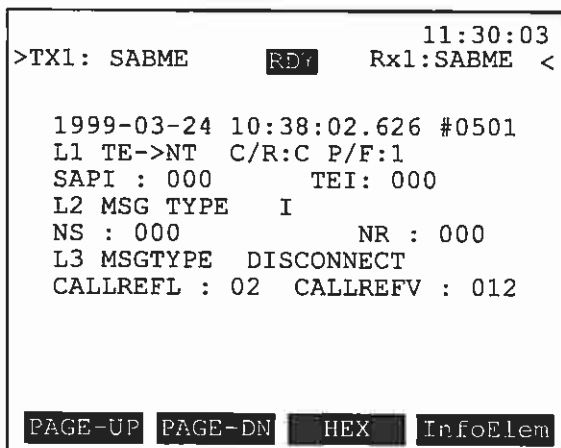

Figure 69 Sample Current Trace Screen (TE)
5. When you have selected the message numbers, press VIEW (F1) to begin viewing the messages. See the Figure 69 for a sample trace.